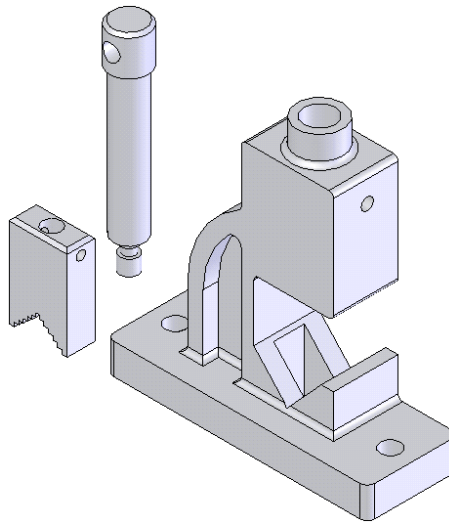

Figure 10-77 The Moveable Jaw, Screw, and Base placed in the assembly document
- Place the Moveable Jaw and the Screw in the assembly. Apply the mates between Moveable Jaw and the Screw, refer to Figures 10-77 through 10-79.
3. Similarly, place the Screw in the assembly document and choose the **OK** button from the **Insert Component PropertyManager**. Figure 10-77 shows the Moveable Jaw, Screw, and Base placed in the assembly document.